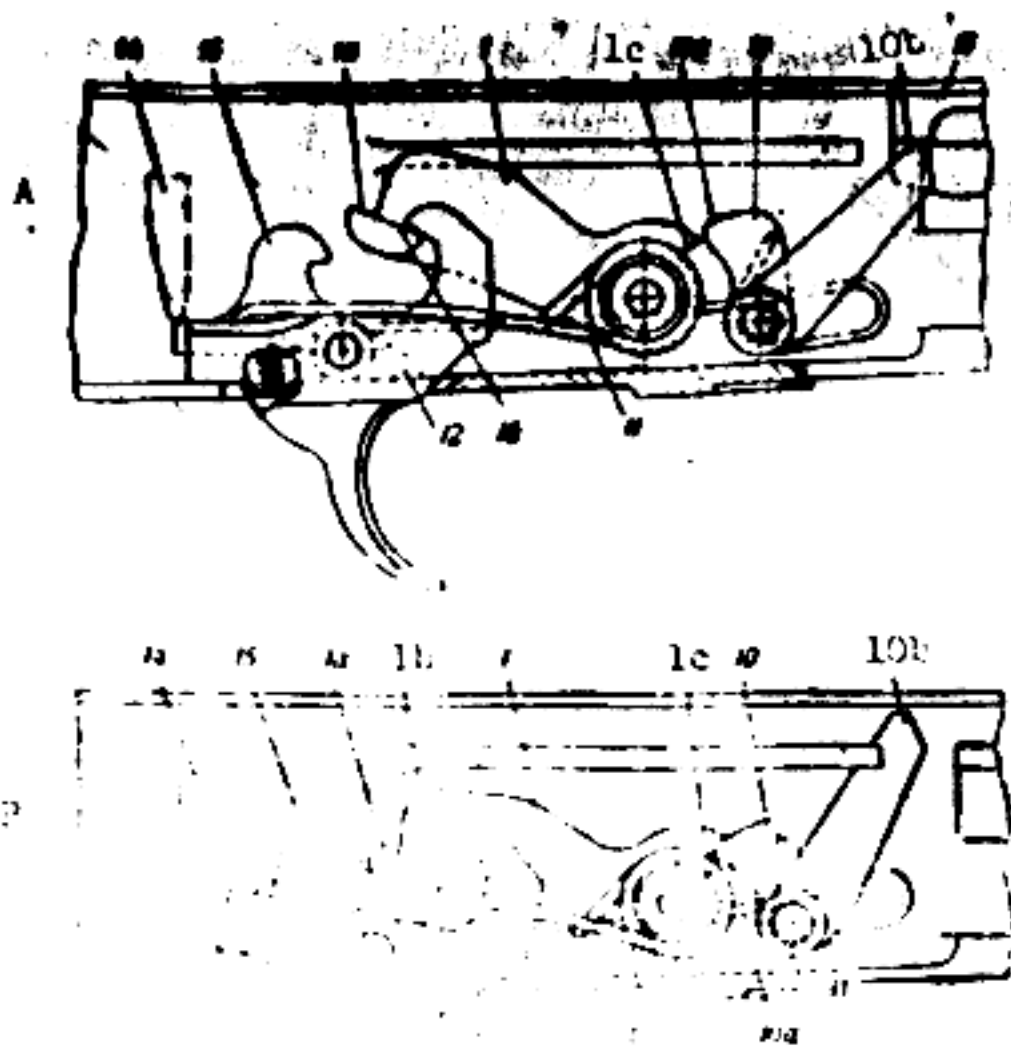
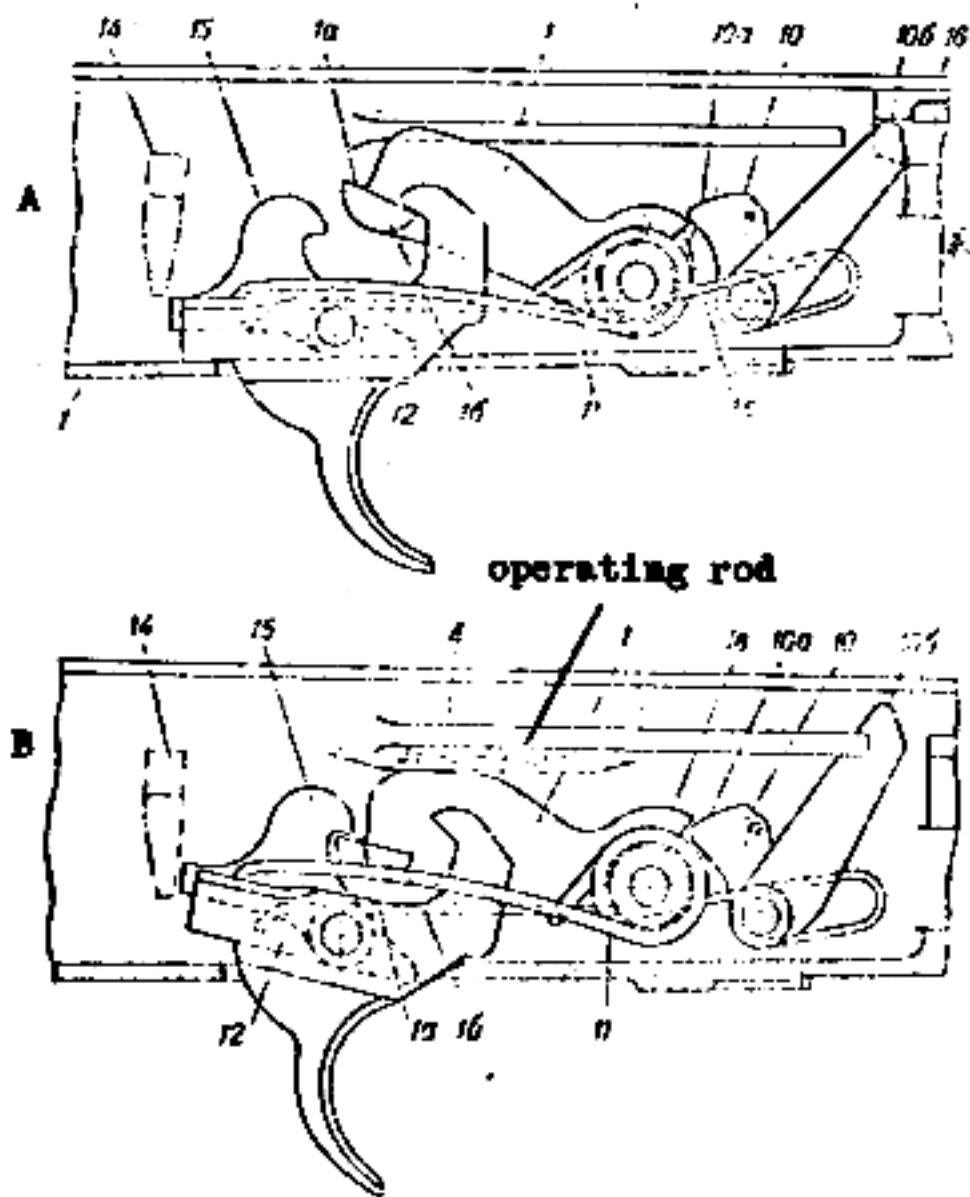

Figure 60. Trigger mechanism in position for full automatic fire.
Figure 61. Trigger mechanism in position for semiautomatic fire.
When the selector is set for full automatic fire (fig. 60), the passage for the cocking handle is cleared. At the same time, the selector lever lug (14) moves to the rear far enough to release the rear end of the trigger while still remaining directly above the rear end of the disconnecter (15). Thus, while the trigger is free to rotate, the selector lever lug still prevents the disconnecter from rotating. When the selector is set for semiautomatic fire, the selector lever moves all the way to the rear, releasing both the trigger and the disconnecter (15). Thus the disconnecter is free to rotate with the semiautomatic sear when the trigger (12) is pressed.*
The hammer continues to be propelled to the rear, first by the lug on the rear of the operating rod and then by the large lug forming the bottom of the operating rod. As the hammer rotates to the rear, the head of the hammer depresses the semiautomatic sear; and since the pressure on the trigger remains constant, the semiautomatic sear engages the hammer cock notch as soon as the head of the hammer has passed the sear (position of trigger mechanism as in A, fig. 60). When the hammer has reached the extreme rear position, the full automatic sear notch is located opposite the cock notch on the full automatic sear; at this point the full automatic sear spring rotates the full automatic sear to the rear, engaging the full automatic sear cock notch (10a) with the full automatic sear notch (1c) in the hammer (position of trigger mechanism as in B, fig. 60). Simultaneously, the upper end of the full automatic sear rises and obstructs the full automatic disconnecter.
After the bore is sealed, the operating rod continues to move forward. The full automatic disconnecter rotates the upper end of the full automatic sear forward, disengaging the full automatic sear cock notch (10a) (fig. 60) from the full automatic sear notch in the hammer. The hammer rotates forward, engaging its semiautomatic sear notch (1a) (fig. 61) with the semiautomatic sear. This is accompanied by an audible click.
The full automatic sear spring rotates the full automatic sear into engagement with the full automatic sear notch in the hammer. The full automatic sear, however, does not hold the hammer in the cocked position, since the disconnecter (15, fig. 61) is already performing this function. As the full automatic sear rotates, the upper end of the sear rises to obstruct the passage of the full automatic disconnecter.
When the trigger is released, the hammer and trigger spring rotates the disconnecter and semiautomatic sear to the rear, disengaging the disconnecter from the disconnecter notch in the hammer. The trigger and hammer spring (11) (fig. 61) rotates the hammer (1) until the hammer cock notch (1b) engages the semiautomatic sear. This is accompanied by an audible click.
When the trigger is pressed, it rotates on the trigger pin. The disconnecter (15) (fig. 60) does not engage the disconnecter notch in the hammer, since the disconnecter is prevented from rotating by the selector lever (14).